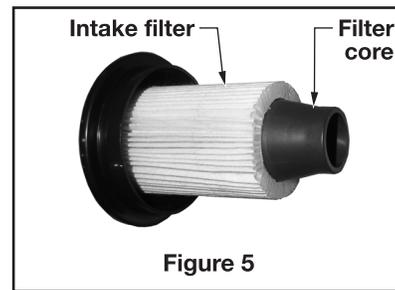

Figure 5
4. Remove the intake filter and replace it with a new one (see Figure 5).